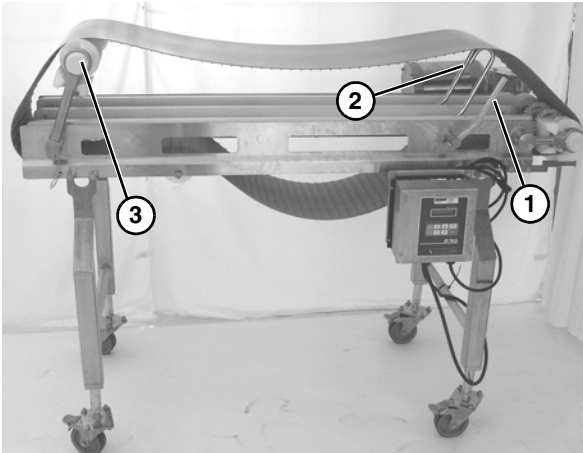

Figure 41
2. Use the lifter handle (**Figure 41, item 1**) to raise the lifters (**Figure 41, item 2**) and raise the tip up tail (**Figure 41, item 3**).